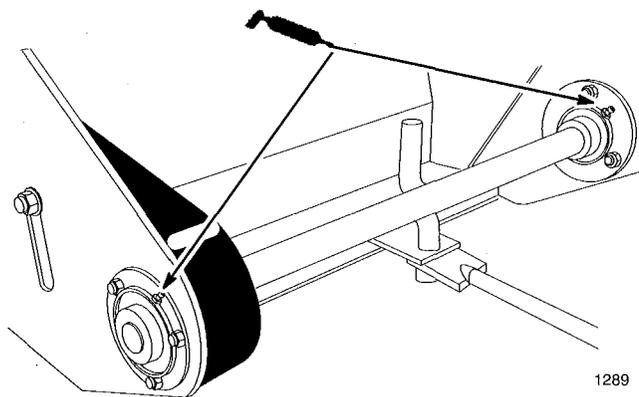

Figure 29
1. Lubricate the drive shaft bearings (Fig. 29).